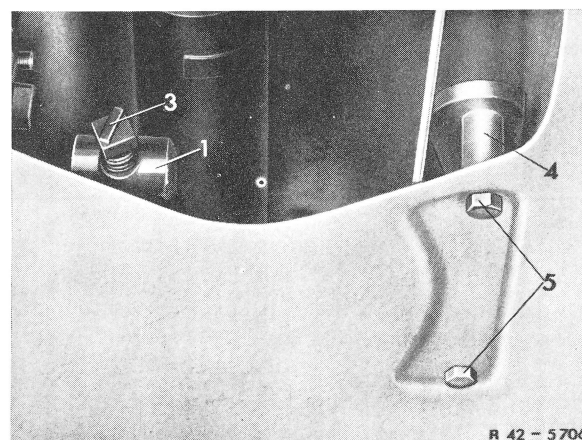

Fig. 4
**6** Unscrew hex. screws (5) for attaching guide (4) for intermediate lever (6) (Fig. 4 and 5).
**7** Completely unscrew adjusting screw (3) of adjusting bracket (1) (Fig. 4).